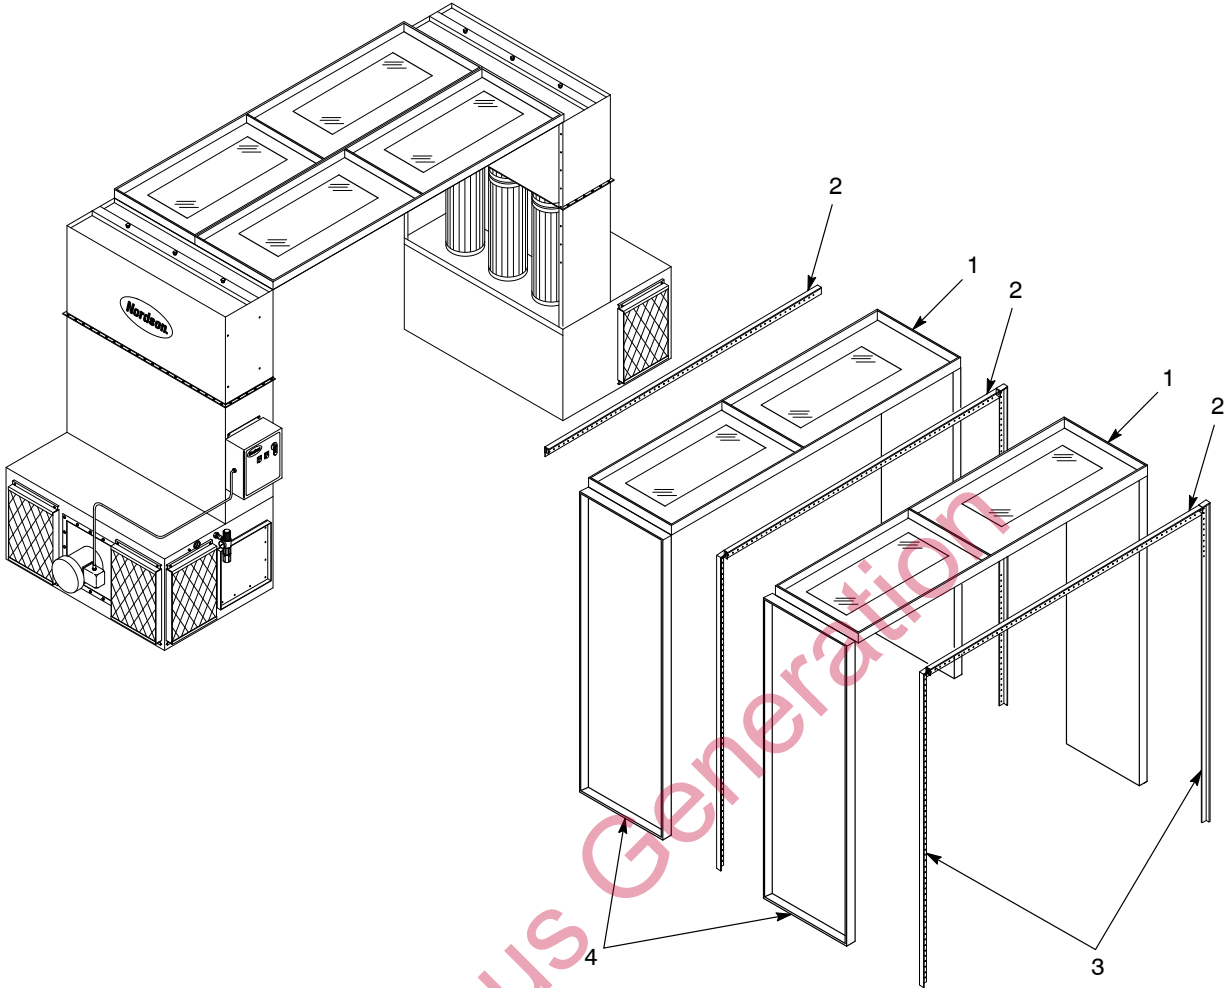

Figure 4-1 Batch Booth Roof Supports (Typical)
See Figure 4-1.
3. See Figure 4-1. Install the roof panels using the following guidelines:
- **Batch booths:** Assemble the brackets to the top of the wall panels. Install the roof panels (1) as shown in the assembly drawings.